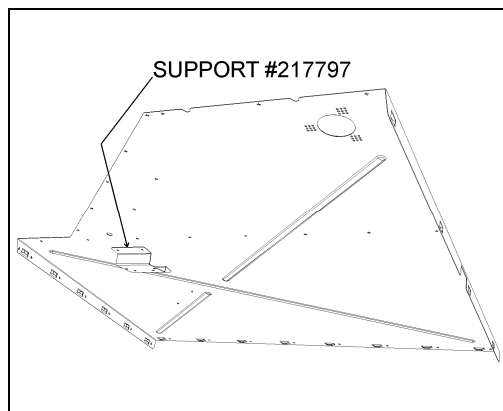
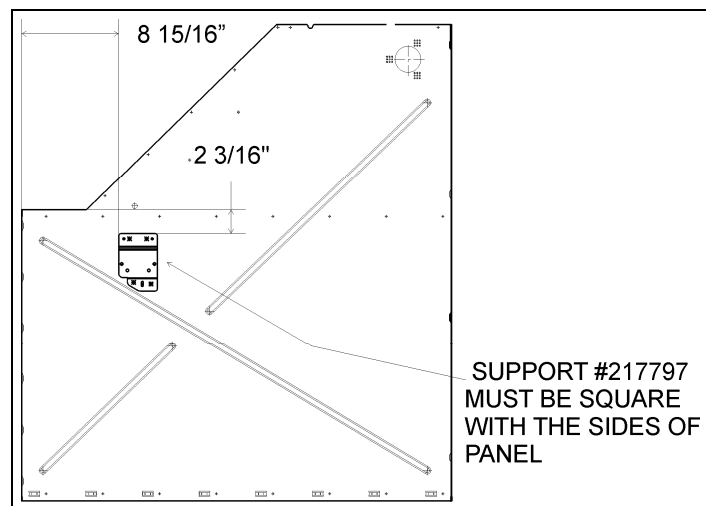

FIGURE 16
FIGURE 17
- 2) First, install support #217797 as shown on FIGURE 16. Locate the support according to measurements of FIGURE 17.